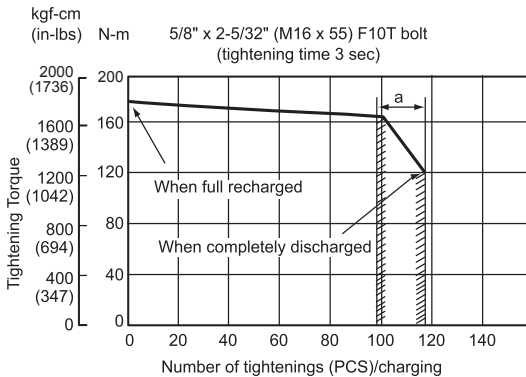

Fig. 18
Tightening torque varies, depending on the battery's charge level. Fig. 18 shows an example of the relationship between tightening torque and the number of tightening. As shown, tightening torque gradually weakens with the increase in the number of tightening. In particular, as the torque decreases very close to the complete discharge ("a" margin in graph), the unit's impact weakens, the number of time impacts declines and tightening torque drops off abruptly. If this occurs, check torque level, then recharge the battery if necessary.
- g. Tightening torque varies, depending on the battery's charge level Fig. 18 shows an example of the relationship between tightening torque and the number of tightenings. As shown, tightening torque gradually weakens with the increase in the number of tightenings. In particular, as the torque decreases very close to the complete discharge ("a" margin in graph), the unit's impact weakens, the number of time impacts declines and tightening torque drops off abruptly. If this occurs, check torque level, then recharge the battery if necessary.